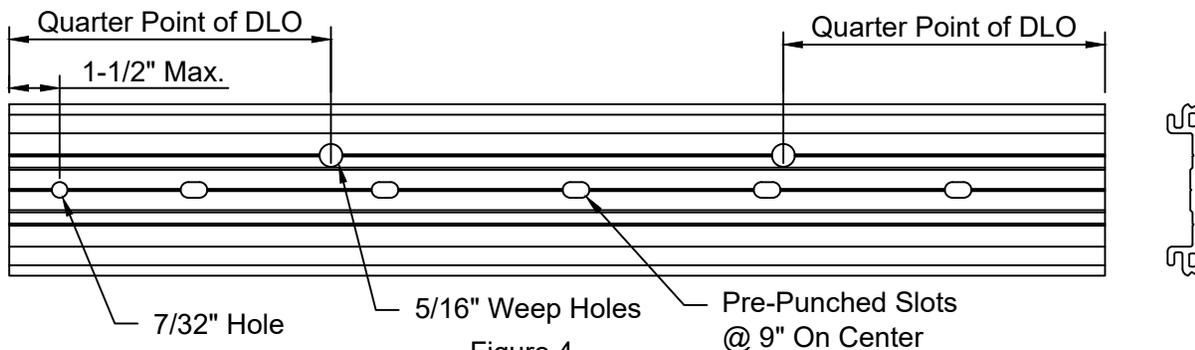

Figure 4
- 1.6 Drill 5/16" diameter weep holes at 1/4 points in the horizontal pressure plate. See FIGURE 4. Horizontal pressure plates at SSG Mullions will have weep holes located at 1/4 points of each DLO and will span multiple openings, but not to exceed 3 lites.
- 1.8 All pressure plates have factory-punched holes for screws at 9" O.C. To ensure proper pressure on the glazing, 7/32" diameter holes may need to be drilled at the ends of each horizontal pressure plate as required. Locate at 1 1/2" maximum from the ends. See FIGURE 4.